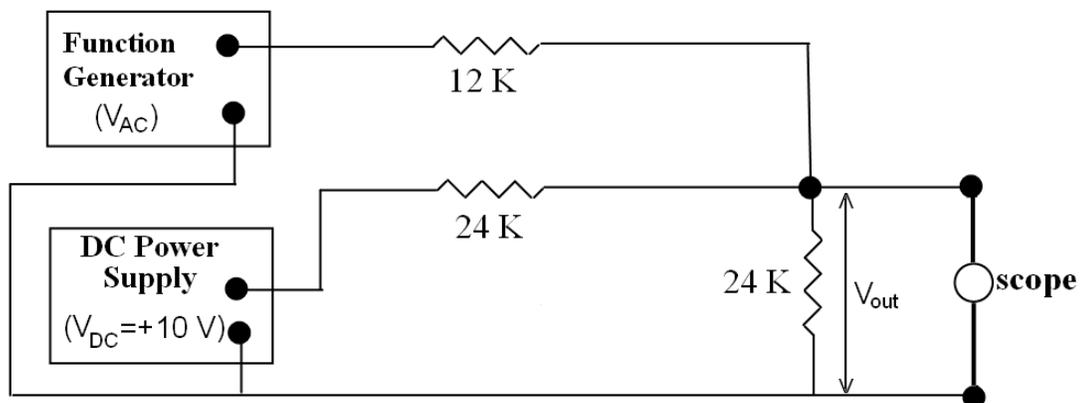
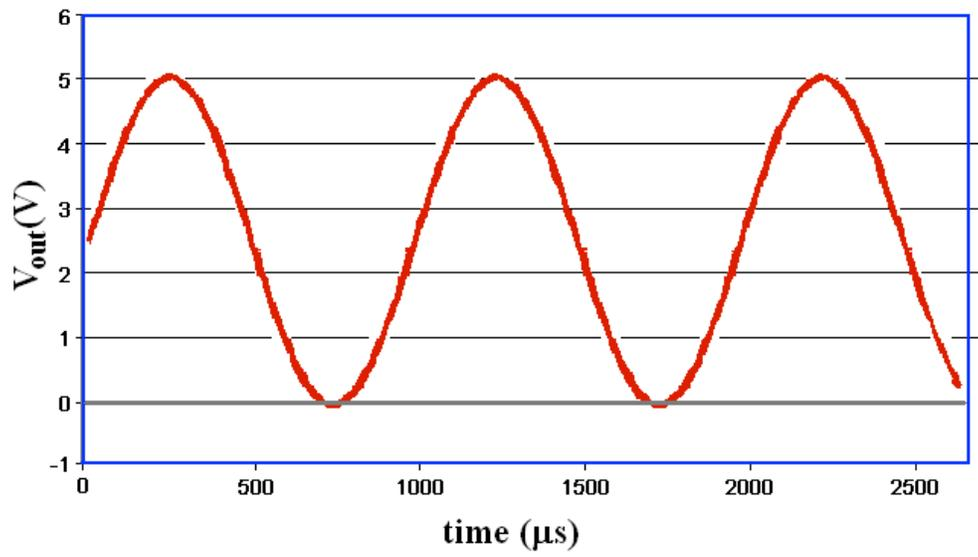

Figure 3: Passive summer.
Figure 4: Output of Passive Summer.
3. *Passive Summer*: The summer adds the DC voltage from the power supply to offset the ac voltage from the function generator (Figure 3). Suppose the function generator creates a sine wave voltage of $V_{AC} = 5 \sin(2\pi ft)$, where f is the frequency and the amplitude is 5 V (the peak-to-peak amplitude would be 10 V), and that the DC power supply provides a voltage of 10 V. Assuming that voltage sources are ideal, it can be shown that $V_{out} = V_{AC}/2 + V_{DC}/4$. Hence that the output will always positive and it should look like the curve in Fig. 4, below.